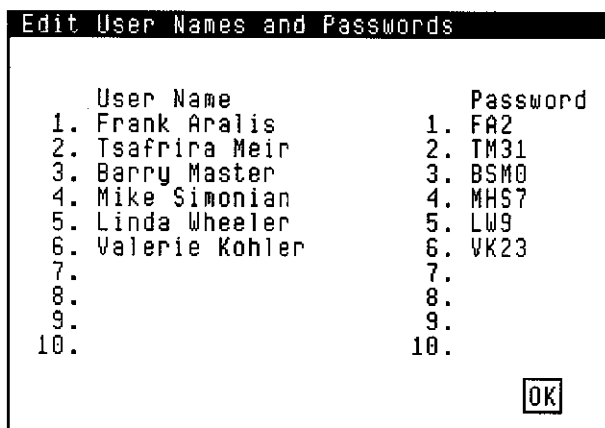

Figure 2-5.
2. Click on the X's that are displayed for the master access code, input the code, then click on [OK]. The Edit User Names and Passwords window, Figure 2-5, is displayed.